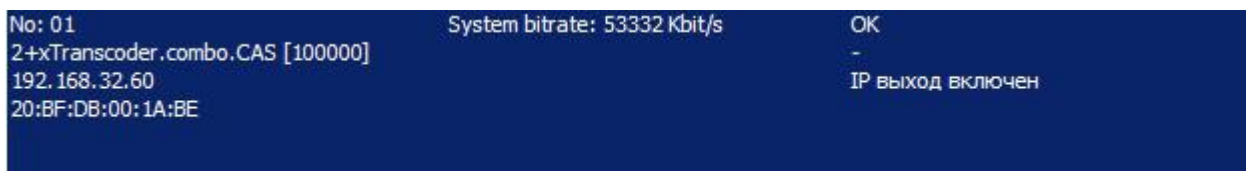

Fig. 3.10.
2. Click OK and wait until the device goes from the "Encoder" to "Transcoder" that can be seen in the status bar DVBTToolkit Fig..3.10.